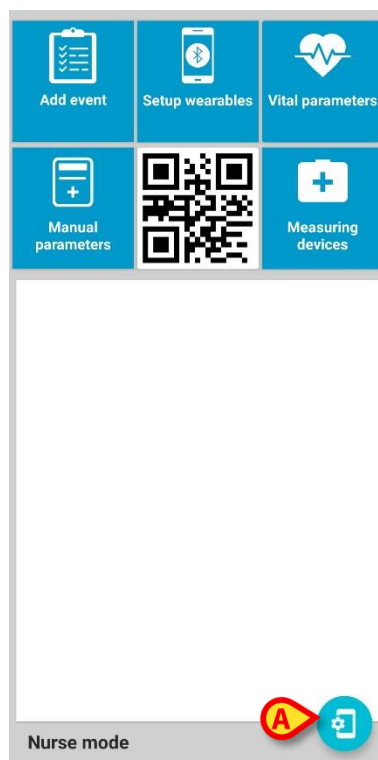
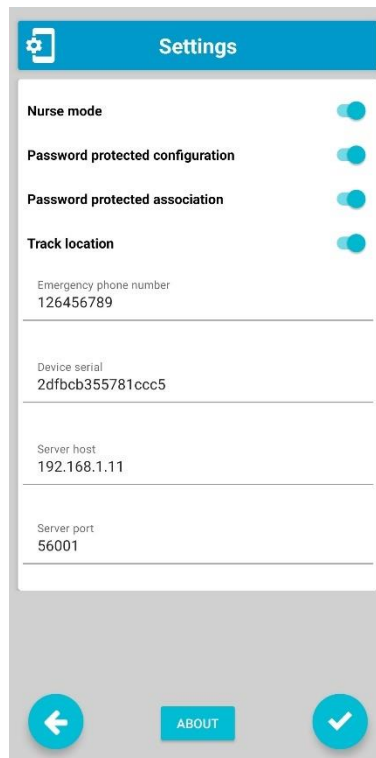

Fig 1 – Main View
Fig 2
- Press the “Settings” button (Fig 1 A) to open the settings page (Fig 2) and configure the application.